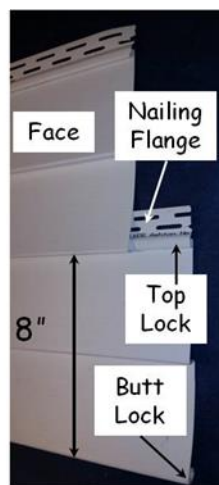

Figure 11-11. Siding Nomenclature.
3. Measure the distance from the top of the nail flange to the bottom of the top lock (see Figure 11-11). This is normally 1 1/4" to 1 3/8". Add this measurement to 8" and 40" to obtain the height of the lower and upper quality lines in Step 4, below.
4. As shown in Figure 11-11, the "Buttlock" of each course locks into the "Top Lock" of the course below.
5. On the 8s: The visible portion of each siding course is 8" high (see Figure 11-11). For each new course, snap the buttlock onto the top lock of the previous course along the entire piece. Nail the ends and middle, then measure up from the **BOTTOM** of the first course to the **BOTTOM** of the course being installed. Each measurement should be a multiple of 8 (e.g. 8", 16", 24", 32"). At each nail position, before nailing, check the measurement and adjust up or down to an even multiple of 8, and finish nailing the entire piece. Recheck as necessary and adjust the position of the nailing flange and re-nail, if required. Small adjustments can be made by tapping the nail head up or down as required. When installing the first and fifth courses, be sure the top of the siding (the nail flange) just touches the quality line previously snapped (see Section 11.1.6.3) on the wall.
4. Measure the distance from the top of the nail flange to the bottom of the top lock (See Fig. 11-11). This is normally 1¼" to 1¾". Add this measurement to 40" to obtain the height of the quality line. For each side of the shed at each corner, make marks at the height calculated, measuring from the bottom of the starter strip. Tack a nail into each of those marks and snap a Quality Control chalk line around the shed.